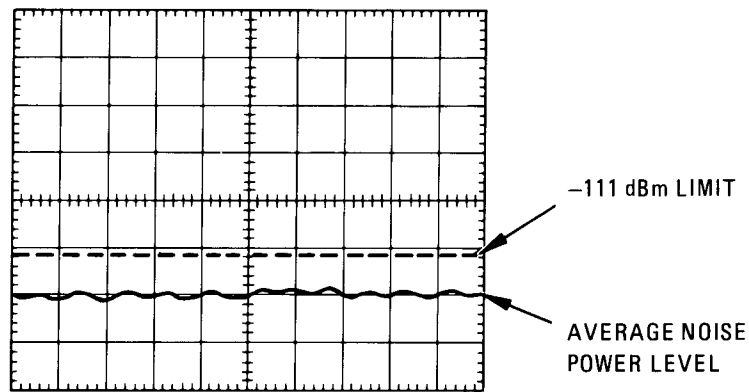

FIGURE 4-13. AVERAGE NOISE LEVEL MEASUREMENT, .01 – 3 GHz
5. Measure average noise level displayed on CRT (see Figure 4-13) and record results in Table 4-5.